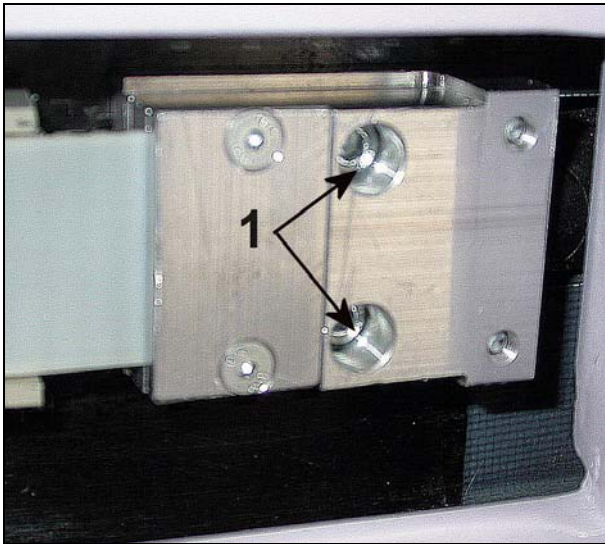

Fig. 15
- Attach the clamping block (Fig. 15) to the C-arm using the screws (1/Fig. 15).